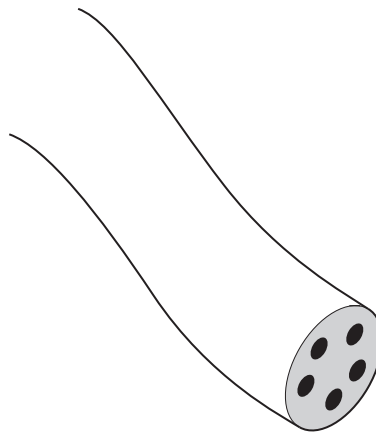

Fig. 9
- (d) Fig. 9 shows a close up view of a piece of multicore solder with the flux visible.